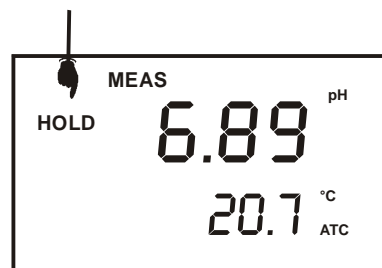

Figure 18: Press HOLD to freeze reading
1. To hold a measurement, press the HOLD/ENTER key while in measurement mode. "HOLD" will appear on the display. See Figure 18.